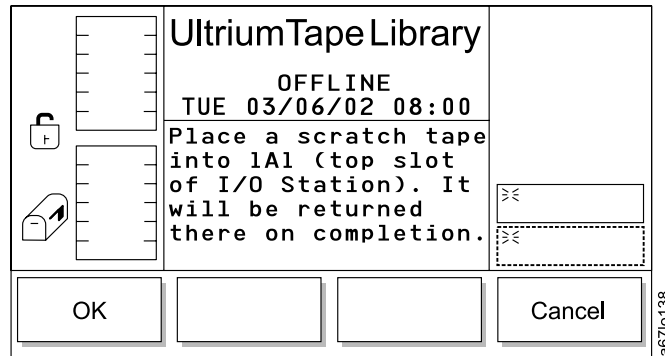

Figure 42. FAST Read/Write screen
- d. Select **OK**. The FAST Read/Write screen displays (see Figure 42 on page 55).